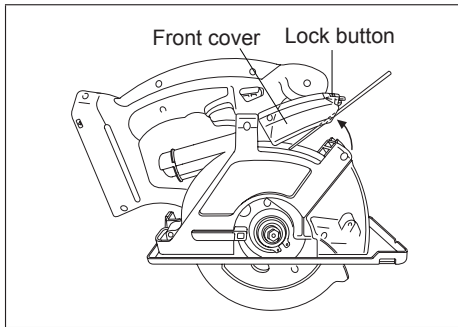

Fig. 4
- Disengage the front cover lock button and remove any dust that has become clogged inside the cover. If the cover is clogged, use a long object such as a manual screwdriver to unplug it. After doing so, close the front cover. (See Fig. 4)